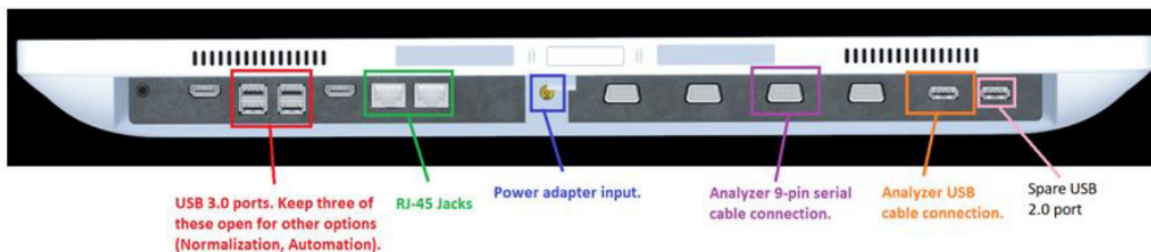

Figure 3 Controller ports (underside).
See **“Unpacking and Component Identification”** on page 14 to identify each cord, and refer to Figures 3 and 4 to identify the connectors.
(See **Figure 3**.)
- 3 A second cable (USB) connects the analyzer socket labeled "USB" to the USB port on the controller. This port must be used for proper functioning of the instrument and barcode reader. (See **Figure 3**.)